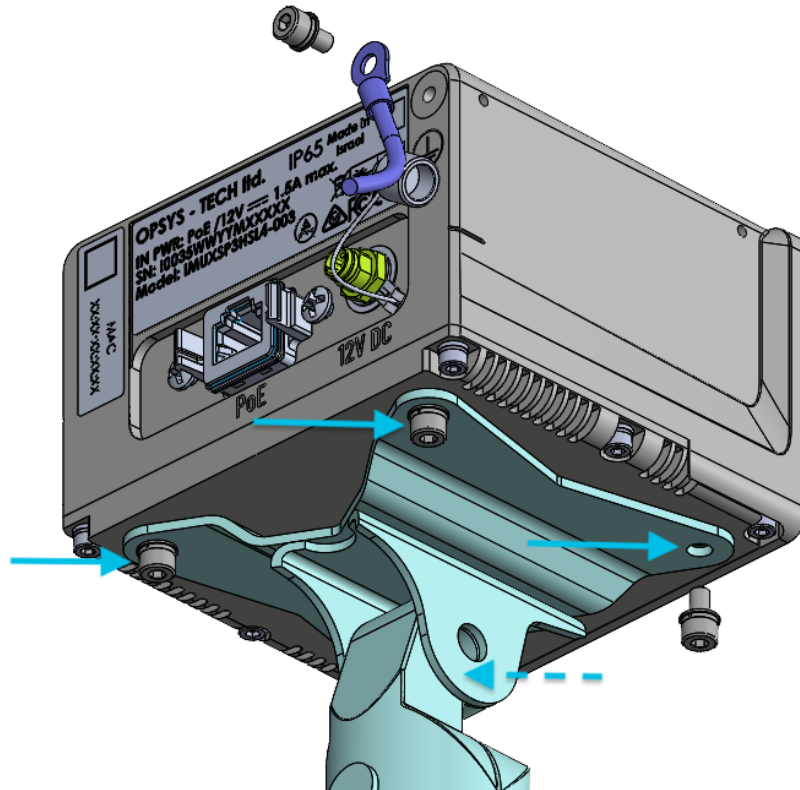

Figure 6: ALTOS PoE VESA mount screw locations
1. Align the sensor with the 50x50mm VESA mount and secure it with the four M4 screws. Figure 6 below shows the location of the 4 mounting holes. It also shows the screw, washer and split spring, needed for the mounting of the ALTOS PoE. Note that one of the four mounting holes is not visible in the picture, it is indicated with the dotted arrow.